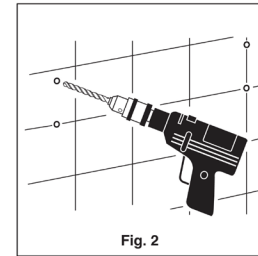

Fig. 2
2. Take away the mounting plate after marking is done. Start to drill holes at the marked screw locations, Fig.2.